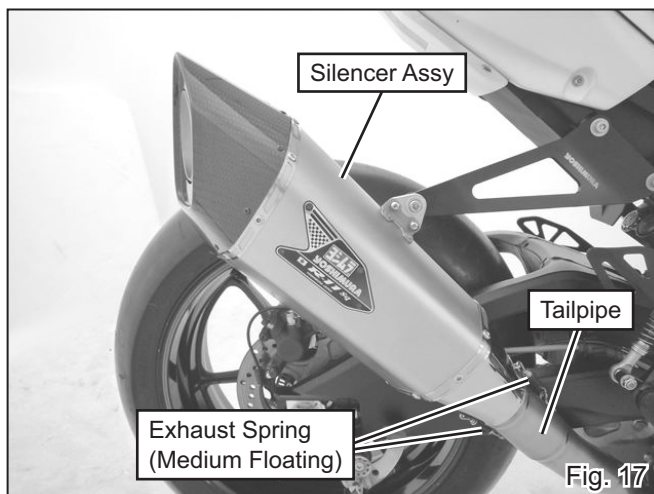

Fig. 17
- 15) Fixed Silencer Assy and Tailpipe with 2 of Exhaust Spring (Medium Floating) (See Fig. 17).